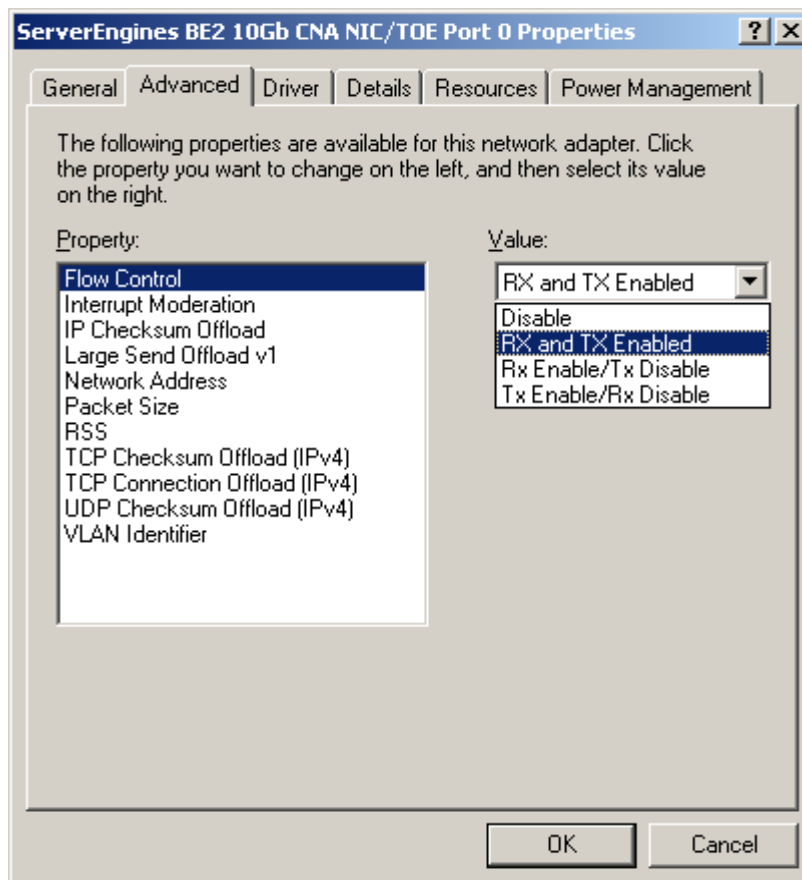
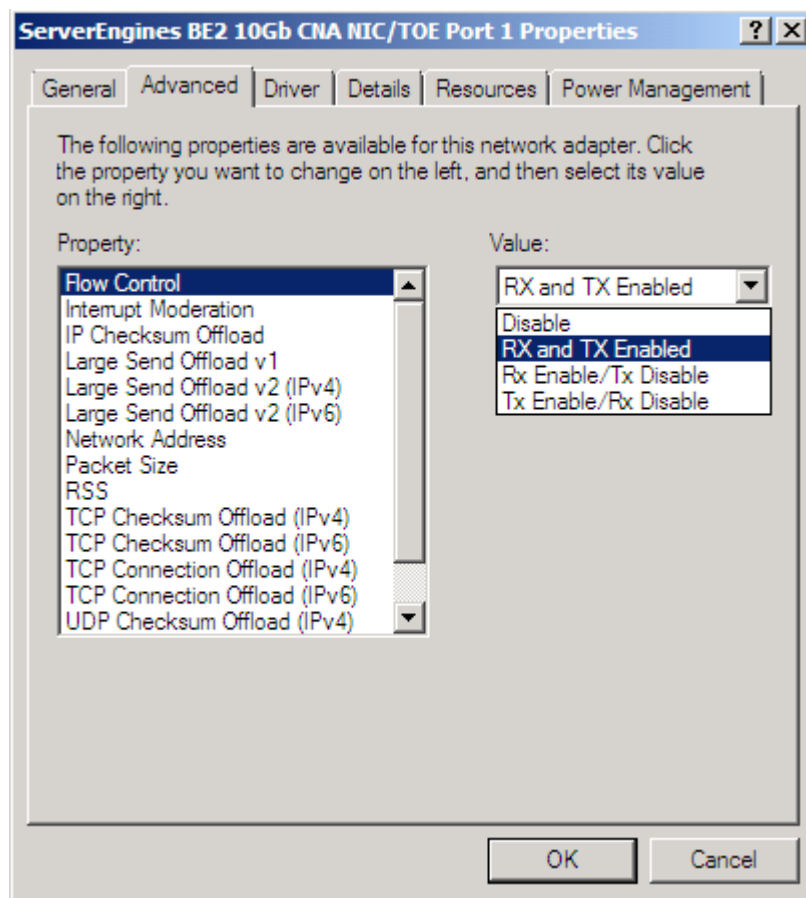

Figure 6: NIC/TOE Advanced Properties in Windows Server 2003
Figure 7: NIC/TOE Advanced Properties in Windows Server 2008
5. Click **OK**. Figure 6 and Figure 7 are examples of the Advanced tab.